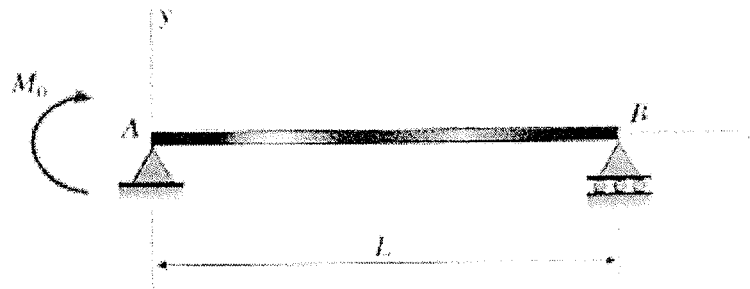

Figure Q5
Q5 Figure Q5 shows a simple beam AB loaded by a couple M_0 at the support A.
- ii. Explain the boundary conditions for the beam shown in Figure Q5. (04 marks)
- iii. Derive the equation of the deflection curve for the beam AB loaded by a couple M_0 at the support A as shown in Figure Q5. (04 marks)